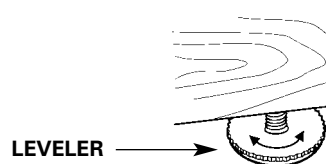

FIGURE 9
Position the clock into its final location. Once in place, your clock cabinet must be leveled, as the clock may not operate if it is not level. There are four (4) levelers under the cabinet on each corner that can be screwed in (up) or out (down) to make adjustments. Place a level alongside the clock cabinet from front to back and side to side, adjusting the levelers until level. It may be necessary to periodically check your cabinet after initial set-up, (especially if the clock is on carpet), as it might settle after original leveling. (See figure 9). Ensure clock is positioned square and firm on the floor so that it will not fall over.